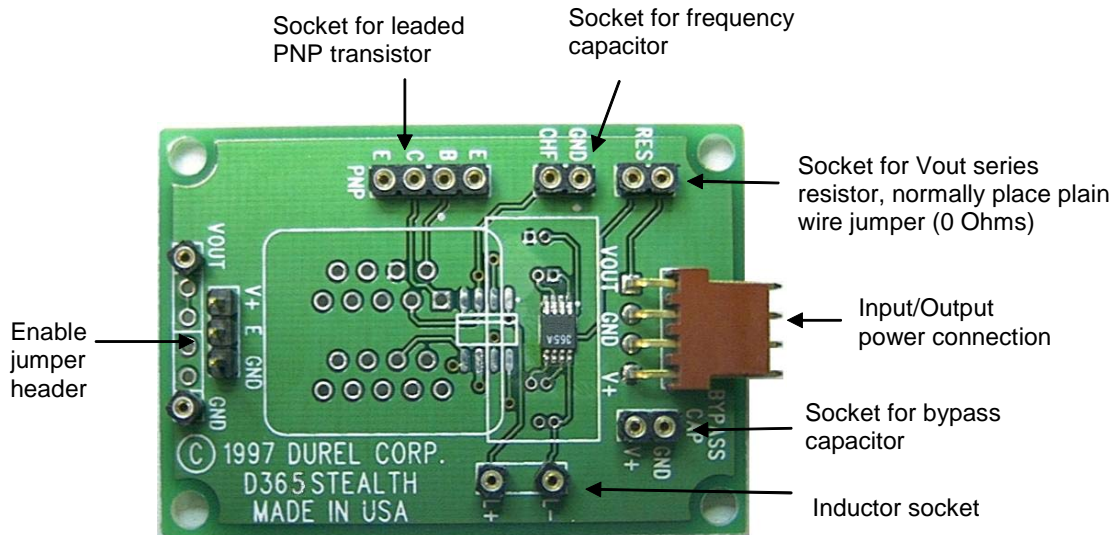

Figure 1: The D365A IC Designer's Kit Board
The Designer’s Kit Board (see Figure 1), which comes with a D365A IC already soldered to the board, is a useful tool for optimizing a D365A IC driver circuit for any application. Refer to the D365A IC datasheet as a guideline with sample circuits as a starting point of your design. Simply insert an appropriate value of inductor (L) and timing capacitor (CHF) into the labeled sockets, as shown in Figure 1, and insert the transistor (MPSA56) to complete your driving circuit. Additional sockets are provided in the Kit Board for a bypass capacitor between V+ and ground (GND) to absorb electrical noise in the DC input.